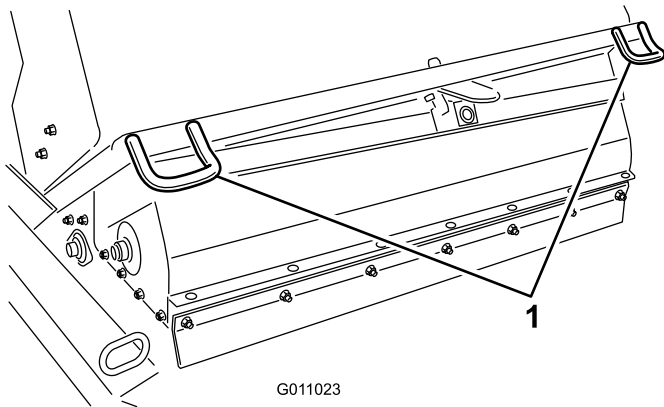
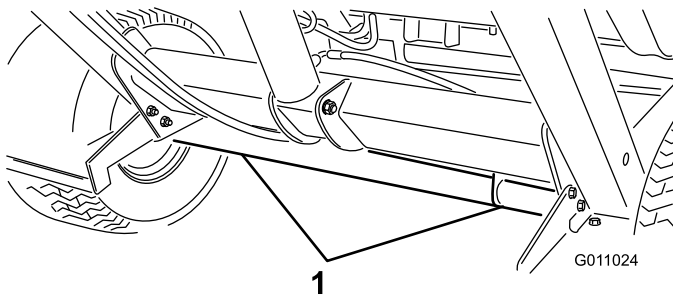

Figure 27
Figure 28
- When transporting the sweeper, use the tie-downs to secure the front of the machine (Figure 27) and the axle (Figure 28) to secure the rear of the machine to the trailer. Use of anything other than the proper tie-down locations could cause damage to the machine.